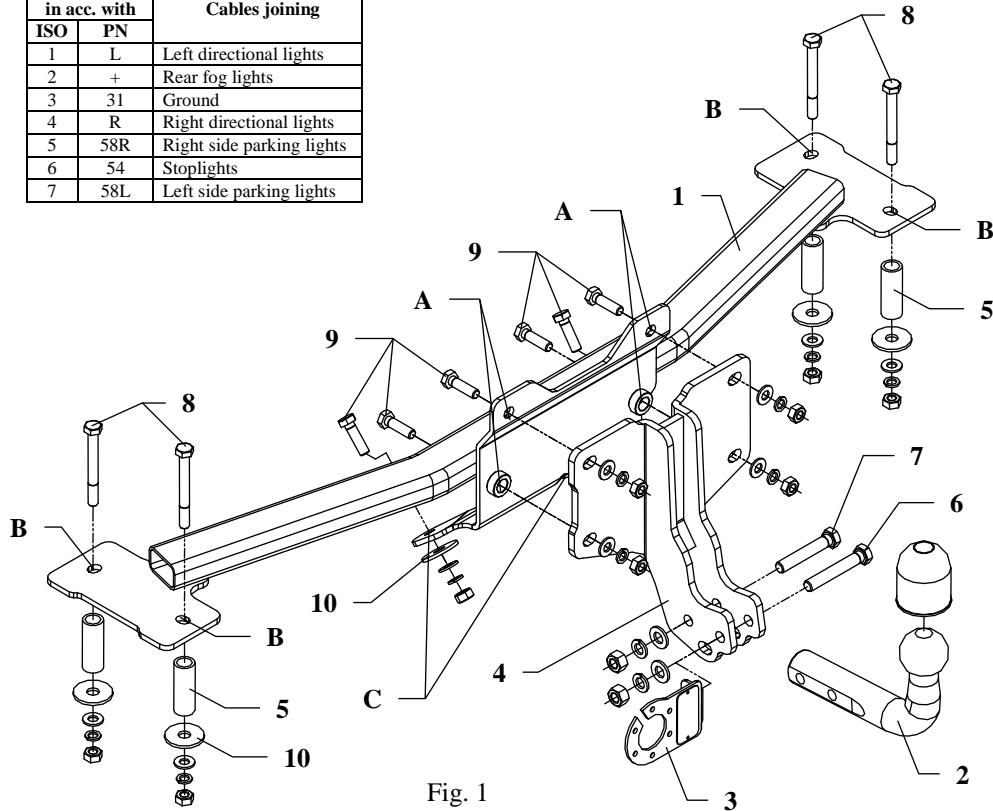

Fig. 1
8. Fix tow ball (pos. 2) using bolt M12x75mm (pos. 6) and M12x70mm (pos. 7). With bolt M12x75mm fix also a socket plate (pos. 3). See figure 1.